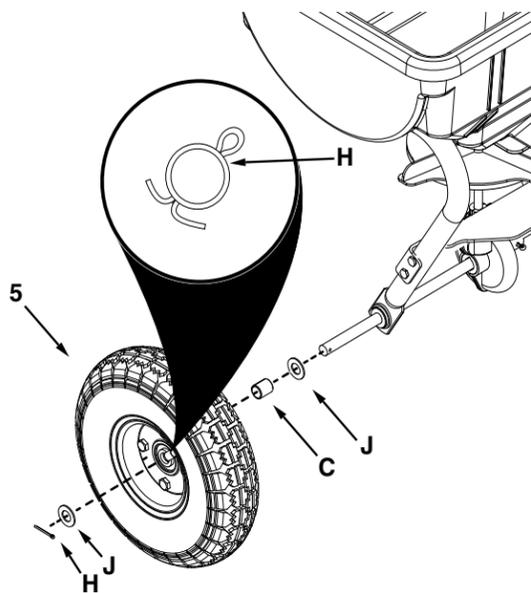

Figure 7
STEP 7 (SEE FIGURE 7): Attach the other wheel by sliding onto the right end of the axle a washer (J), a spacer (C), a wheel (5), and another washer. Secure with a cotter pin (H) by sliding it through the hole in the axle and bending the ends.